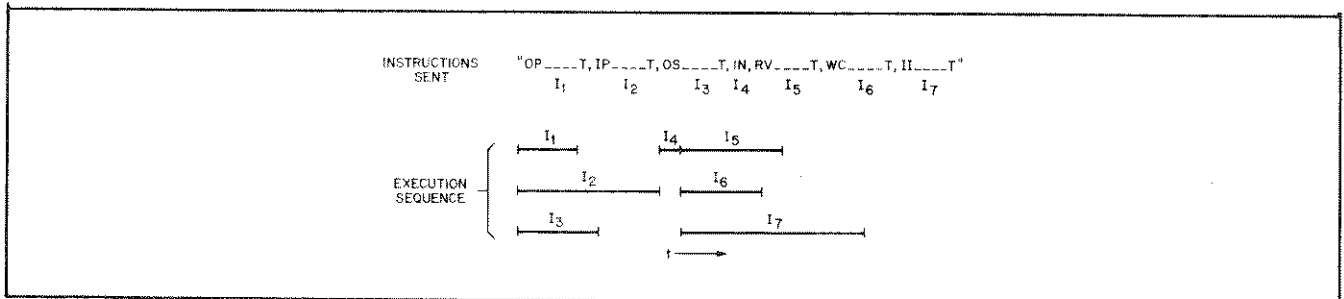

Figure 5-9. Interrupt Now Instruction in Parallel Mode
1. The interrupt Now (IN) instruction separates two groups of parallel instructions by not allowing the second group to start until all instructions (except OI and II) in the first group have completed. Figure 5-9 illustrates an IN instruction (I_4) separating two parallel groups (I_1 , I_2 , I_3 and I_5 , I_6 , I_7). When the last instruction in the first group completes (I_2 in this example), I_4 executes and allows the next group I_5 , I_6 , I_7 to run concurrently.